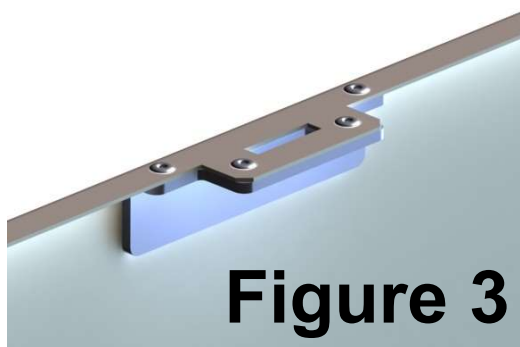

Figure 3
3. Install four Pop Rivets(M) with finished side of head on the bottom of door panel. (Fig 3)